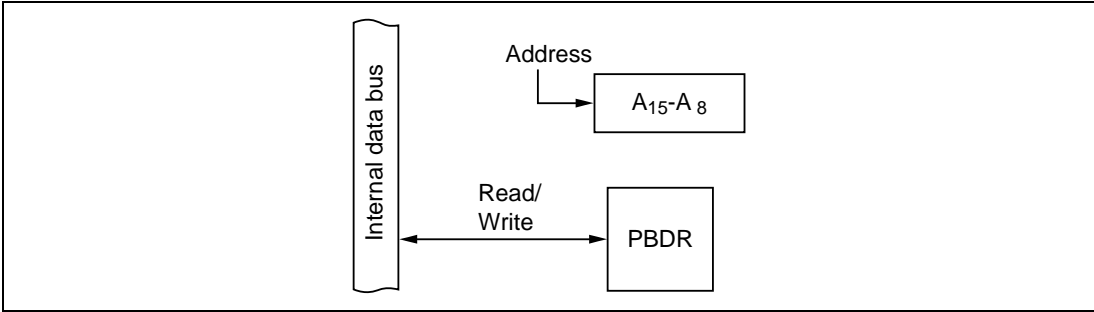

Figure 10-81 Address Bus (Modes 1 to 6)
(4) Address Bus (Modes 1 to 6): Figure 10-81 shows a block diagram illustrating the address-bus function. Table 10-61 indicates register read/write data. When port B is used as an address bus, values written in the port B data register (PBDR) have no effect on the bus lines. When read, PBDR returns the value written in PBDR.